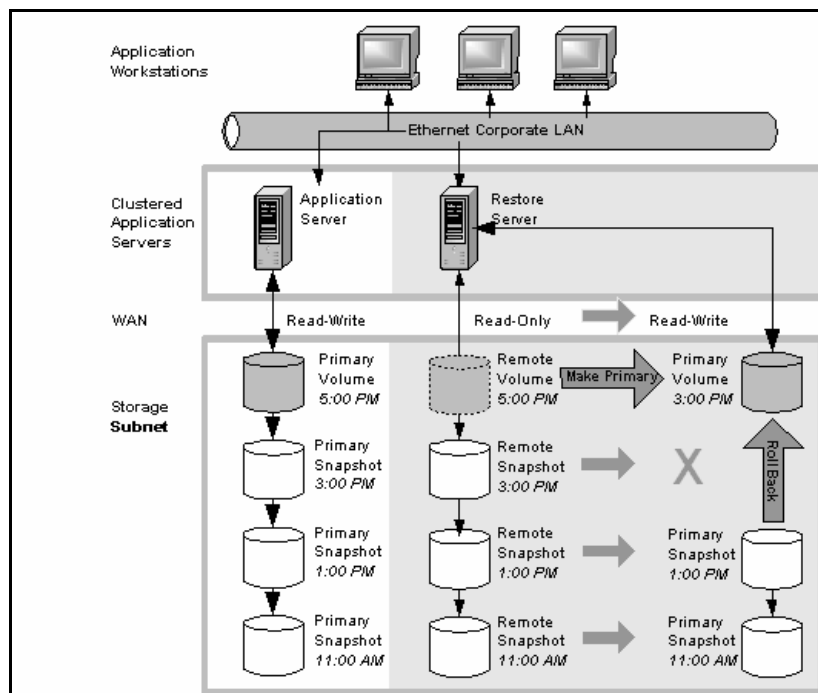

Figure 249. Non-destructive Rollback from the Remote Snapshot
- To roll back the remote snapshot, you must first make the remote volume into a primary volume. This will stop scheduled creation of remote snapshots, which may jeopardize your high availability, disaster recovery, or routine backup strategies. Figure 249 shows rollback of the remote snapshot.